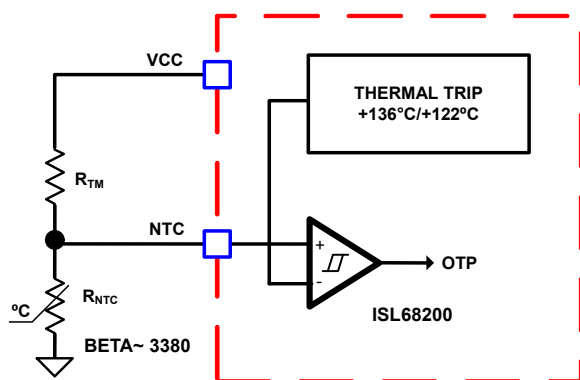
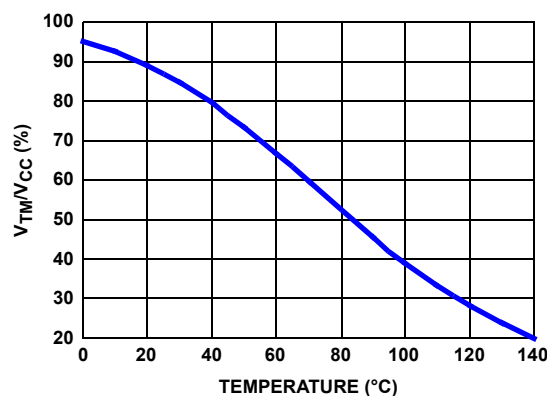

FIGURE 16. BLOCK DIAGRAM OF THERMAL MONITORING AND PROTECTION
FIGURE 18. THE RATIO OF TM VOLTAGE TO NTC TEMPERATURE WITH RECOMMENDED PART
The thermal monitoring function block diagram is shown in Figure 16 on page 18. Place one NTC resistor close to the respective power stage of the voltage regulator VR to sense the operational temperature. Pull-up resistors are needed to form the voltage dividers for the NTC pin. As the temperature of the power stage increases, the NTC resistance reduces, resulting in the reduced voltage at the NTC pin. Figure 18 on page 18 shows the TM voltage over the temperature for a typical design with a recommended 10kΩ NTC (P/N: NCP15XH103J03RC from Murata, $\beta = 3380$) and 1.54kΩ resistor R_{TM} . It is recommended to use these resistors for accurate temperature compensation because the internal thermal digital code is based on these two components. If a different value is used, the temperature coefficient must be close to 3380 and R_{TM} must be scaled accordingly. For instance, if $NTC = 20\text{k}\Omega$ ($\beta = 3380$), then R_{TM} should be $20\text{k}\Omega/10\text{k}\Omega \cdot 1.54\text{k}\Omega = 3.08\text{k}\Omega$.
to the NTC temperature of the practical design should be similar to that in Figure 18.
1. Properly choose the voltage divider for the NTC pin to match the NTC voltage vs temperature curve with the recommended curve in Figure 18 on page 18.
Figure 16 shows a comparator with hysteresis that compares the NTC pin voltage to the threshold set. When the NTC pin voltage is lower than 22.31% of VCC voltage (typically +136 °C), it triggers Over-Temperature Protection (OTP) and shuts down ISL68200 operation. When the NTC pin voltage is above 27.79% of VCC voltage (typically +122.4 °C), the ISL68200 resumes normal operation. When an OTP fault is declared, the controller forces the LGATE and UGATE gate-driver outputs low.